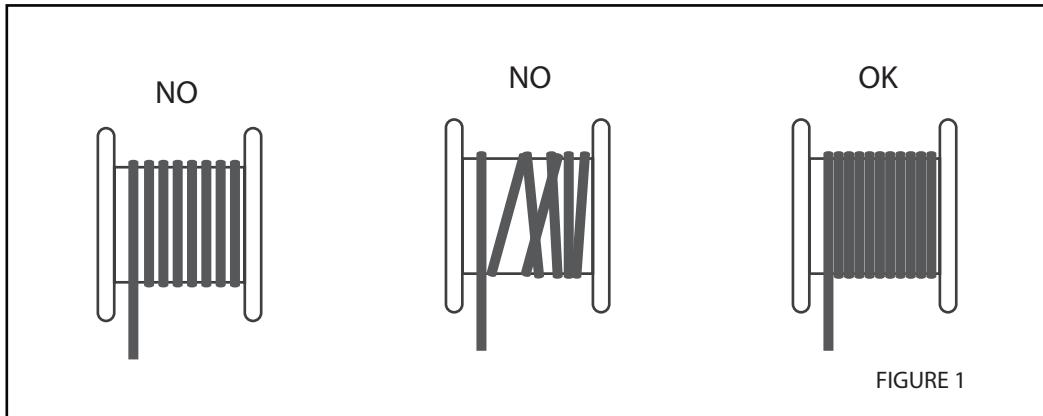

FIGURE 1
18. Make sure the cable is correctly wound around the wheel. See FIGURE 1 below.